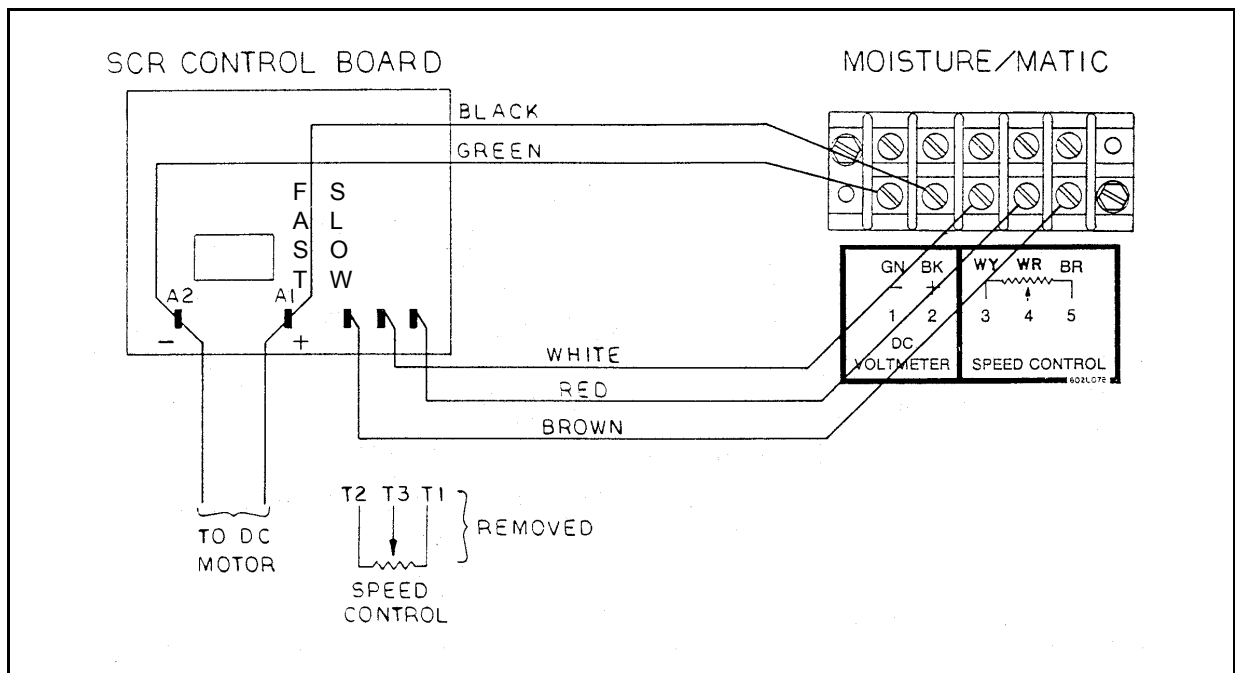

Figure 4P
Electrical Hook-up (See Figure 4P).
- b. In the Moisture/Matic control box, locate the five (5) post terminal. This has "DC Voltmeter" written on it. The green wire should be placed on terminal one (1) and the black on terminal two (2).
3. Speed Control Hook-Up: Locate the three (3) leads on the SCR control board (in the dryer control box) that are attached to the speed control potentiometer. (See Figure 4P).
- b. Determine the center lead from the speed control potentiometer. (This may not be the center lead on the SCR board). Remove this wire from the SCR board and replace it with the red wire in the five (5) conductor cable from the Moisture/Matic.